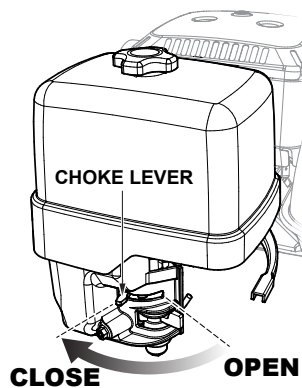

Figure 11. Choke Lever (Closed)
- Once the engine has started, slowly return the choke lever to the **CLOSED** position (Figure 11). If the engine has not started, repeat steps 1 through 6.